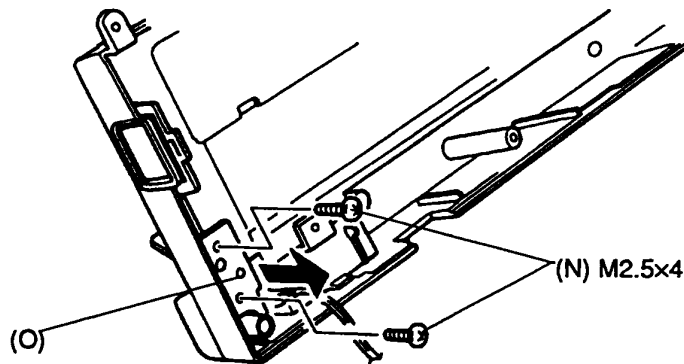

Figure 4-33 Removing the left hinge cover screws
9. To remove the display disable switch, remove the two (M2.5x4) screws (N) securing the switch to the top cover (O) (Figure 4-33).
2. Position the display disable switch in the top cover and secure it with the two (M2.5x4) screws (Figure 4-33).